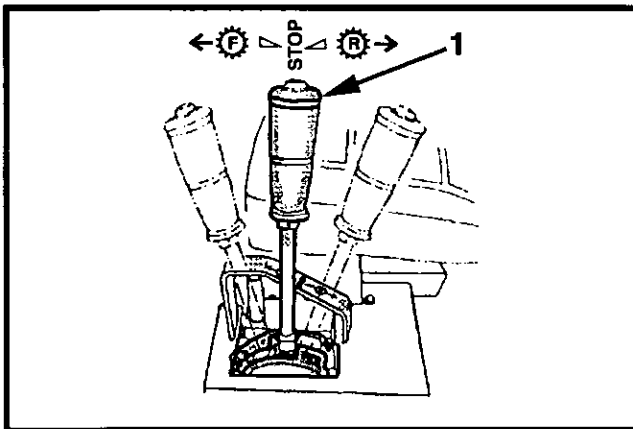
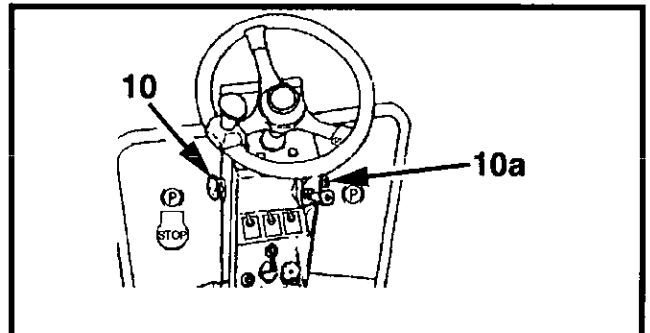

Figure 4-11 Propulsion Control Lever STOP Position
Figure 4-14 Emergency Stop/Parking Brake
12. Return propulsion control lever to **STOP** position (1, Figure 4-11).
1. Position propulsion control lever (1, Figure 4-11) to the **STOP** position.
4. If applied, reset the RED emergency stop switch marked  (10, Figure 4-14), by pushing downward on the red knob and twisting clockwise until it releases upward.
8. Release parking brake control\* (10, Figure 4-14). Observe area around machine for personnel/obstructions. Move propulsion control lever (1, Figure 4-11) in reverse direction ① → to check that the back-up alarm is operational. Return control to STOP position. If alarm is not operational, contact appropriate personnel.
\* Later units are fitted with a BLACK Parking Brake Switch (10a, Figure 4-14) which should be used to control parking brake when engine is running. (On these units the emergency stop will shut down the engine.)